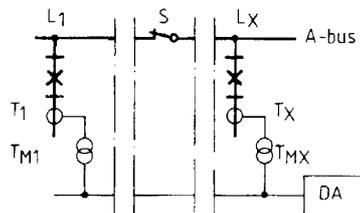

Fig. 1 Single-bus, one zone with bus section switch normally closed
The most simple and reliable installation is the single bus one-zone arrangement (Fig. 1). In this case it can also be permitted that a bus section switch (S) is opened at certain times to split the bus in two parts. As long as there is no internal fault the RADSS differential relay remains stable. This applies even when the two bus sections are working asynchronously, e.g. at different frequencies; however, when an internal fault occurs, both sections will always be tripped simultaneously. It is then required that the fault current to one section does not pass through the other sound section.